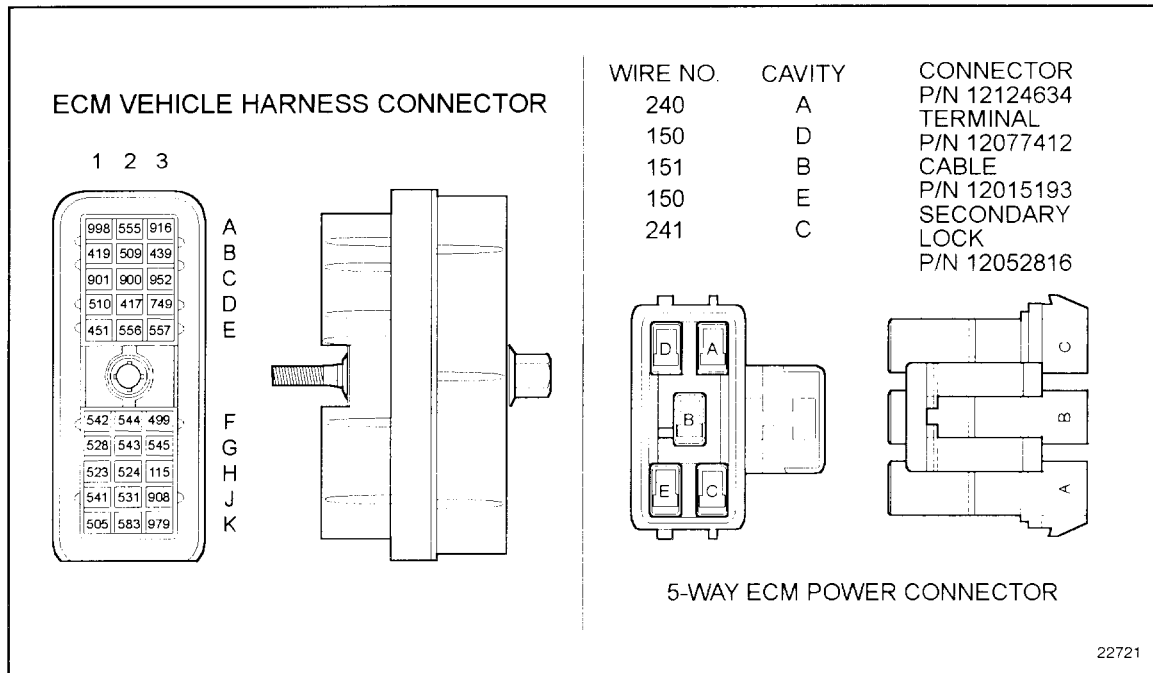

Figure 22-7 ECM Vehicle Harness Connector
4. Measure resistance between socket D2 on the vehicle harness connector and the 5-way power connector sockets A and C. See Figure 22-7.